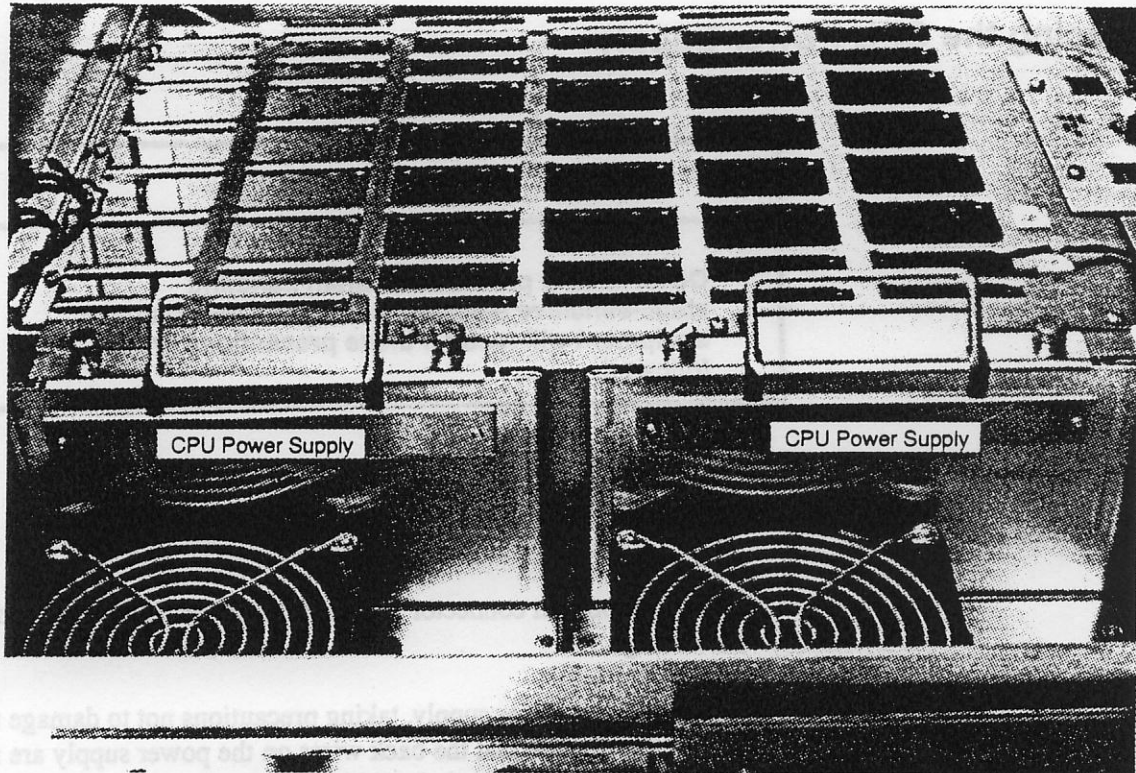

Figure 7-22. CPU Power Supplies - Top View
6. Loosen the two screws that secure the power supply to the frame at the top of the power supply. Refer to Figure 7-22.
8. Grasp the power supply handle and carefully pull up from the card cage. Refer to Figure 7-22.